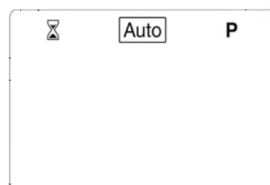

Fig. 12
- 1) press the navigation button (▶) until the automatic operation symbol **Auto** is selected, as in Fig. 12;